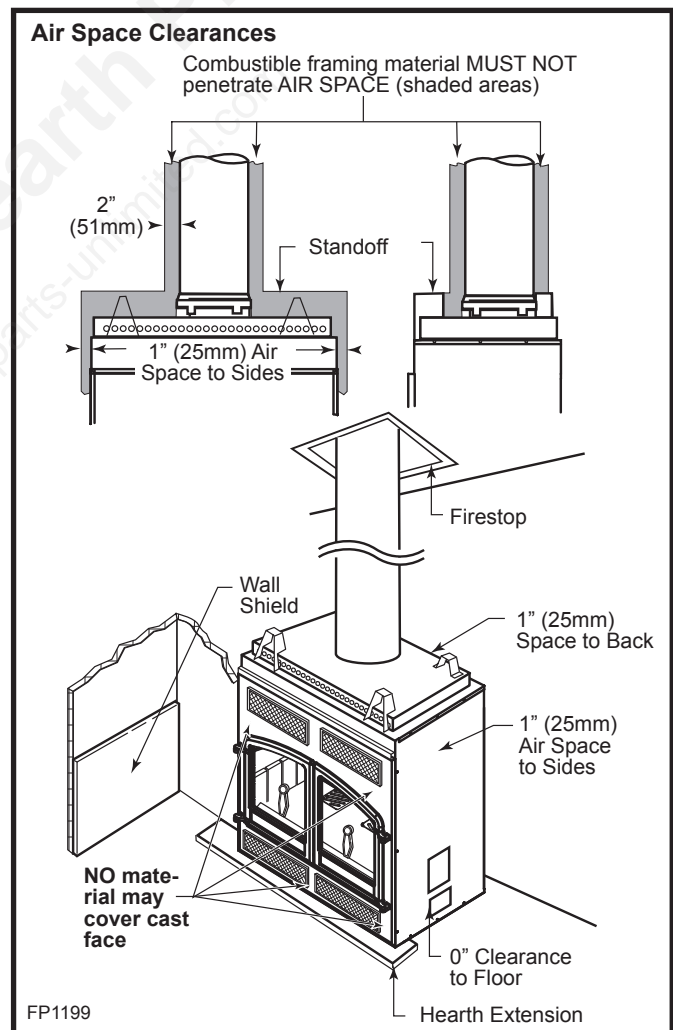
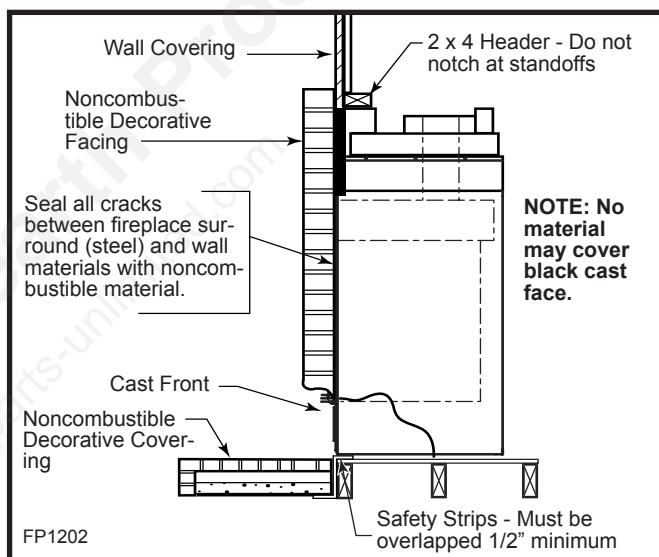

Fig. 20 Minimum clearances to combustibles.
Fig. 25 Sealing gaps.
CAUTION: All joints between the finished wall and the fireplace surround (steel front) must be sealed with noncombustible material to prevent cold air leakage into the room. (Fig. 20)
Finish the wall with material of your choice. **Do not install a combustible mantel shelf less than 12" (305 mm) above the firebox grille opening. Do not install a mantel face plate less than 6" (159 mm) from top of grille opening.** (Fig. 20) If a combustible material is used below a flat mantel shelf, consult your local building codes for minimum clearance from top of fireplace opening to bottom of mantel shelf.
Adjacent combustible side walls that are within minimum dimensions shown in Figure 25 of the fireplace opening must be protected with MHSC Wall Shield Model SP40 or a specifically built wall shield described in Figure 20.
The special wall shield design described in Figure 20 is an alternate method of adding protection to side walls and can be used in place of the SP40 with the same wall clearances specified for the SP40. Rt must =1.85 minimum.
Secure the hearth extension to the floor to prevent shifting, using trim molding or other similar means at three (3) outer edges. Seal crack between the fireplace hearth and hearth extension with a noncombustible material. (Figs. 25 and 26)
WARNING: Hearth extension must be installed in accordance with Figure 25. Top of hearth extension must be level with bottom of fireplace.